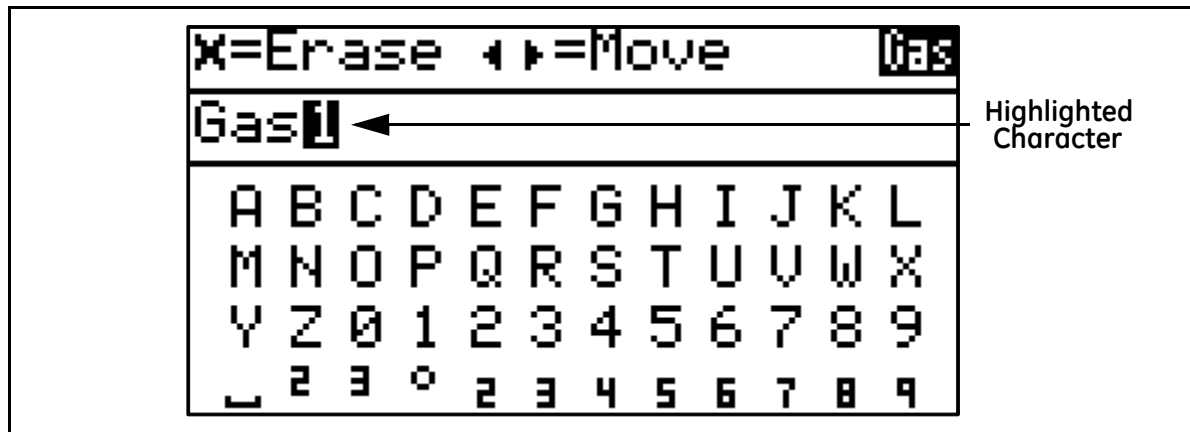

Figure 43: Text Edit
- Pressing the **Down** arrow will move the highlight to the **Text Edit** section (see *Figure 43* below):